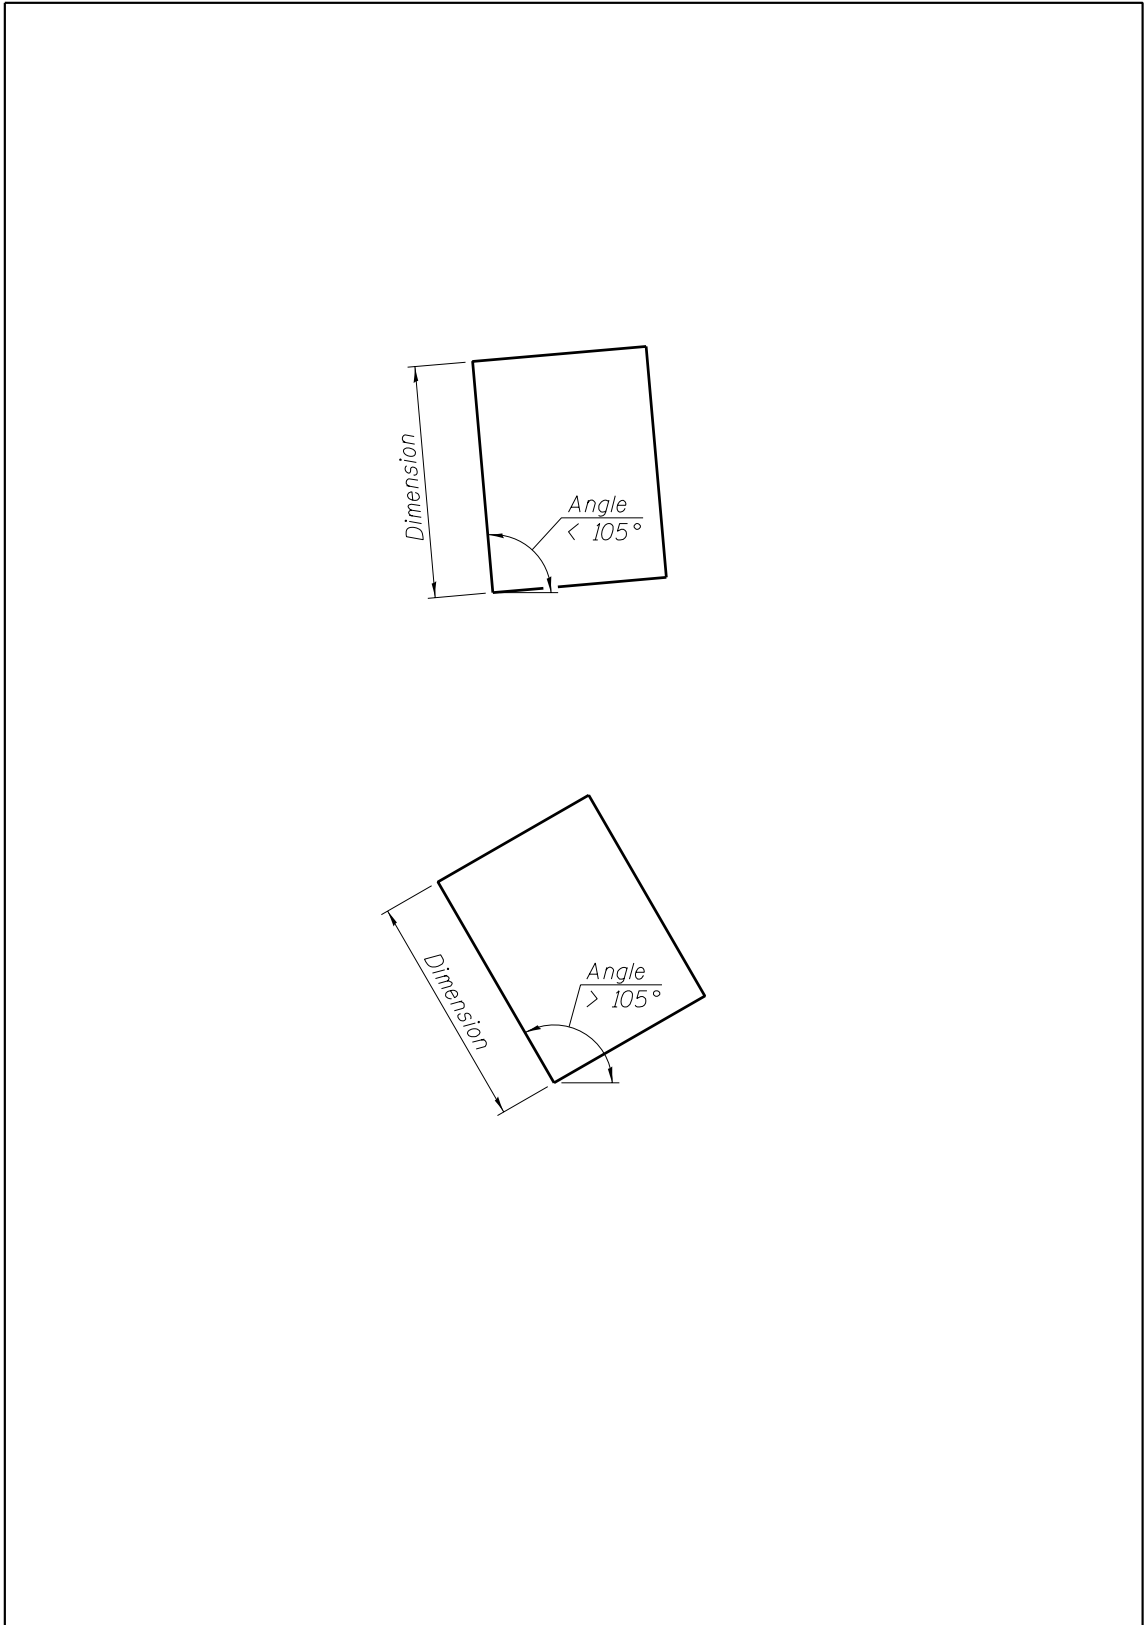

Figure 3.5-2. Dimension Placement and Callouts (Example #2)
- If the active angle when placing text is between 90 degrees and 105 degrees, the text should be placed such that it can be read from the right of the sheet. If the angle is greater than 105 degrees, it should be placed such that it can be read from the left or bottom. See Figure 3.5-2.